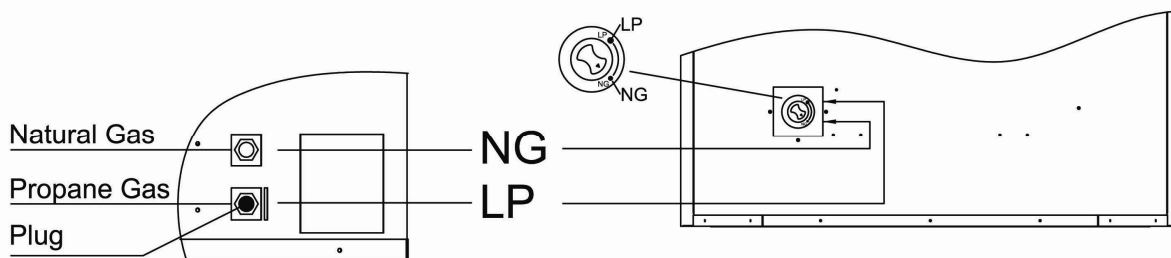

Figure 14
2. For NATURAL GAS, press in knob using a flat screw driver with a blade the width of a quarter and turn knob clockwise  until the knob locks into the NG position (see Figure 14). Selection valve must be locked into the NG position. Do not operate heater between locked positions!